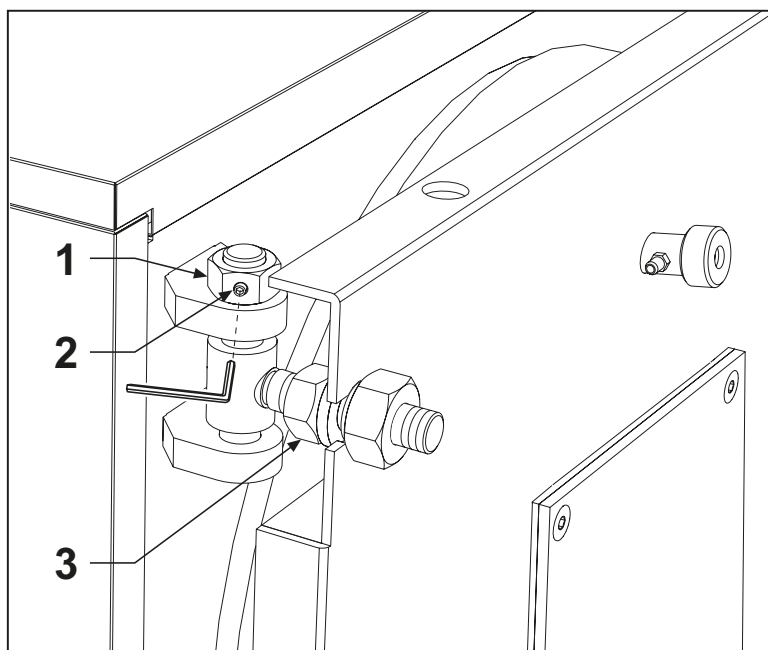

Fig. 14
- Door height adjustment is done with the nut (pos. 1); after adjusting, tighten the grub screws (pos. 2 - Fig. 14).
- Lengthwise adjustment is done with the screw pos. 3 - Fig. 14.